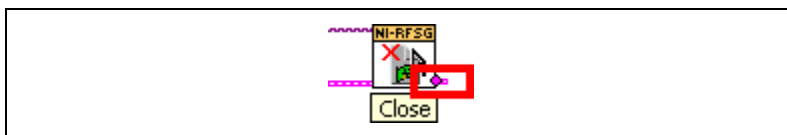

Figure 1-32. Error Out Terminal on niRFSG Close VI
18. Create an error indicator by right-clicking the **error out** terminal of the niRFSG Close VI and selecting **Create>Indicator**. The **error out** terminal is highlighted in Figure 1-32.